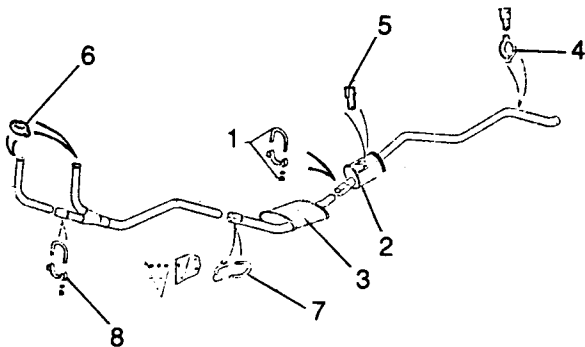

Fig F3.6
(2) Refer to Fig F3.6. Remove the U-bolt, spring washers and nuts (1) securing the rear silencer assembly (2) to the intermediate silencer (3).
(3) Remove the tail pipe support bracket (4).
(4) Disconnect the securing strap (5) and remove the rear silencer and tail pipe.
(5) Support the remainder of the exhaust system.
(6) Remove the clamps (6) to release both downpipes from the exhaust manifold.
(7) Remove the U-bolt (7) securing the downpipe to the mounting bracket.
(8) Remove the intermediate silencer and downpipes.
(9) Undo the nuts, remove the U-bolt (8) holding the front downpipe to the intermediate pipe and separate the pipes.